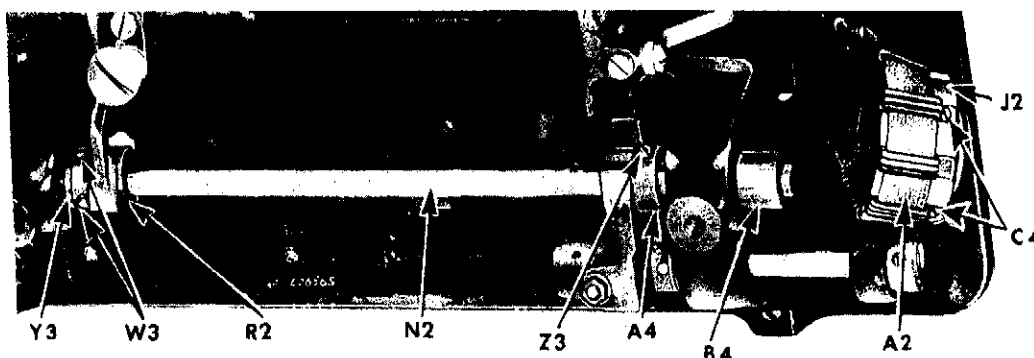

Fig. 242. Removing Sprocket and Hook Driving Shaft
2. Loosen sprocket screws **C4**, Fig. 242.
3. Mount feed advance eccentric with collar **A4**, Fig. 242. Collar must be set close to fork without rubbing against jaw of fork to avoid binding of machine from heat expansion.